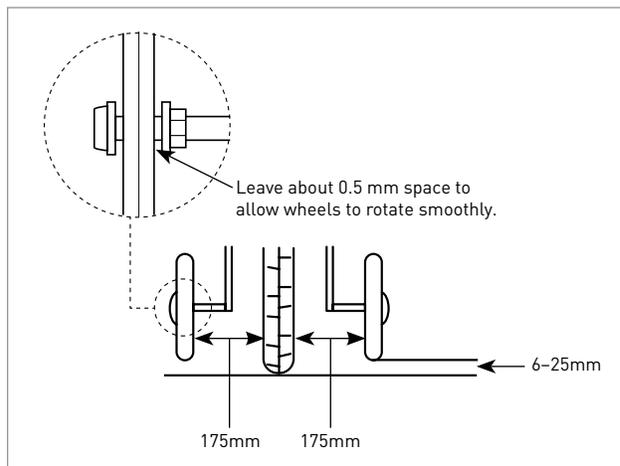

Figure 1
2. Placing a washer on each side of the wheel, insert the shoulder bolt through the wheel and thread on a 14mm nut, leaving about 0.5mm of space between the washers and the wheel to allow the wheel to rotate (fig. 1).